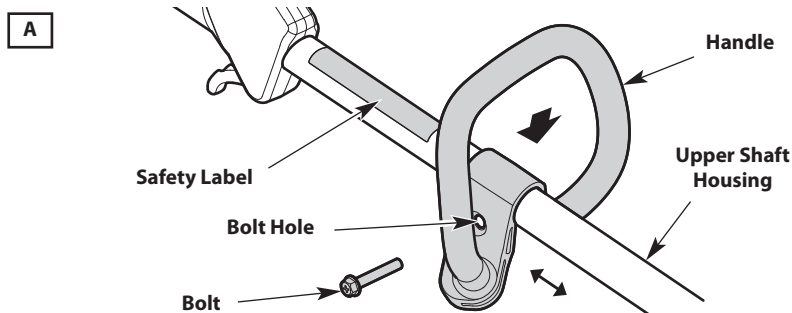
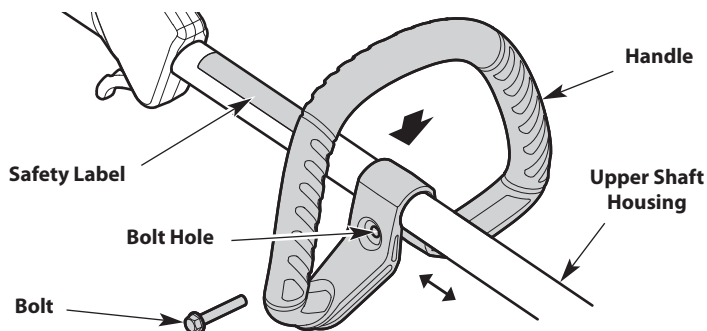

Fig. 8
Fig. 9
1. Push the handle down onto the upper shaft housing (Fig. 8 or Fig. 9). Make sure the bolt hole faces to the right (Fig. 8 or Fig. 9).
2. Insert the bolt into the bolt hole and push it through (Fig. 8 or Fig. 9). Tighten the bolt with a flat-head screwdriver, but do not tighten the bolt completely.
3. Hold the unit in the operating position (Fig. 14). Move the handle up or down the upper shaft housing to a comfortable location (Fig. 8 or Fig. 9). Make sure the handle is positioned beyond the end of the safety label (Fig. 8 or Fig. 9).
1. Loosen the bolt with a flat-head screwdriver (Fig. 8 or Fig. 9).
2. Hold the unit in the operating position (Fig. 14). Move the handle up or down the upper shaft housing to a comfortable location (Fig. 8 or Fig. 9). Make sure the handle is positioned beyond the end of the safety label (Fig. 8 or Fig. 9).